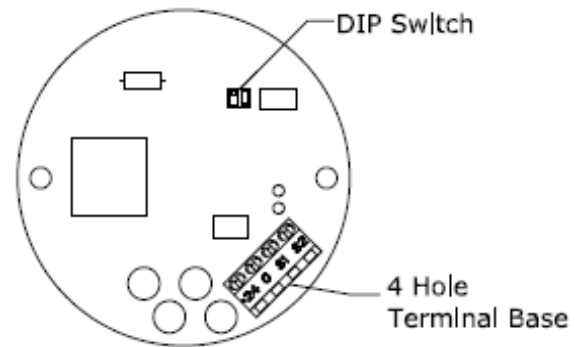

Fig 5
**Xenon Type:** (See Fig 5)
Use **DIP Switch** with 2 binary codes on the **Xenon Beacon PCB** (see Fig 5/7) for frequency adjustment.